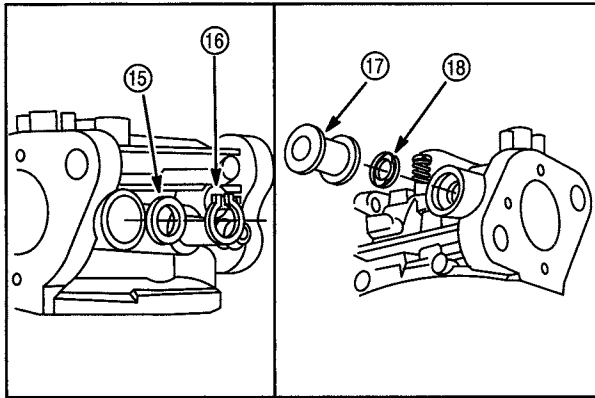

Fig. 30
11. Remove snap ring (16) and washer (15), Fig. 30.
12. Remove throttle shaft, collar (17) and seal (18).